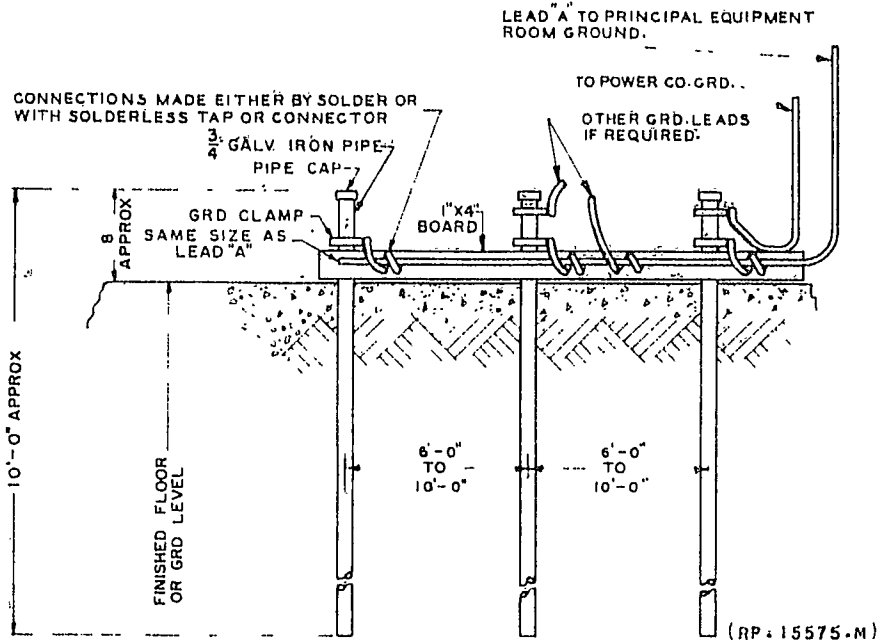

FIG. 1 TYPICAL ARRANGEMENT OF GROUND LEADS TO PIPES DRIVEN IN BASEMENT (PAR. 5.31)
5.31 Run Lead "A", which shall be continuous without joints (see Figures 1, 2, or 3) from the principal equipment room ground bar (usually on the